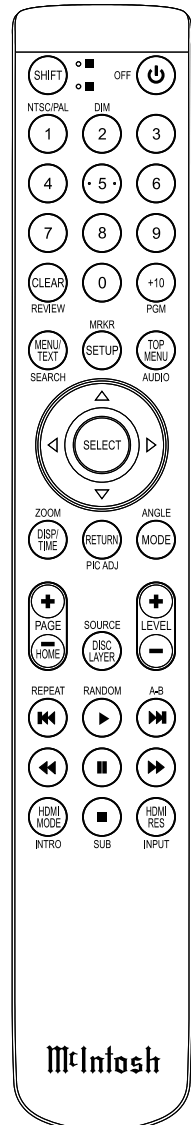

Figure 21
3. The Text Display Mode may be canceled by pressing the DISP/TIME Push-button on the Remote Control. Refer to figure 21.
4. The various Time Modes may be displayed by pressing the DISP/TIME Push-button on the Remote Control. Refer to figure 21. For additional information on the Time Display Modes refer to "Display Modes" on page 20.
Using the Remote Control, press the ▶▶ (Fast Forward) or ◀◀ (Reverse) Push-button to search back and forth rapidly through a Track on a disc. To return to normal playback, release the same ▶▶ (Fast Forward) or ◀◀ (Reverse) Push-button. Refer to figure 21.